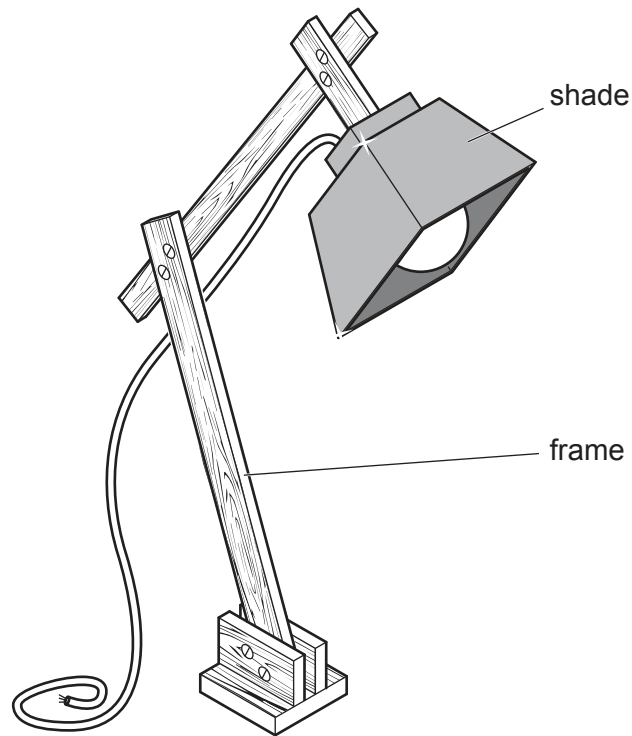

Fig. 6.1
- 6 Fig. 6.1 shows an adjustable electric lamp. The shade is made from acrylic and the frame from pine. Each joint on the frame is held together with two woodscrews.